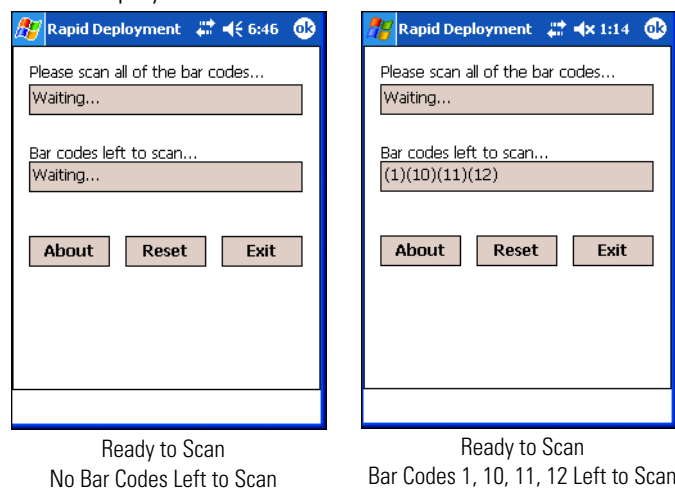

Figure 10-2. Rapid Deployment Window
- b. Multi-part linear bar codes (1-D bar codes) can require scanning several bar codes. Bar codes can be scanned in any order. The text box under *Bar codes left to scan...* shows the remaining bar codes to scan. See Figure 10-2.